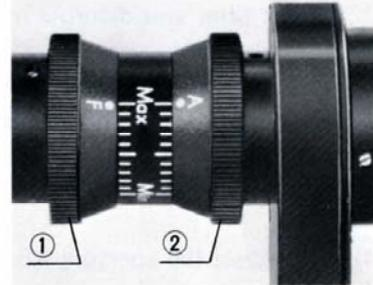

Fig. 7
- 3) Rotate the knurled rings "F" ① (for the field iris diaphragm) and "A" ② (for the aperture iris diaphragm) to the MAX. position. (Fig. 7)